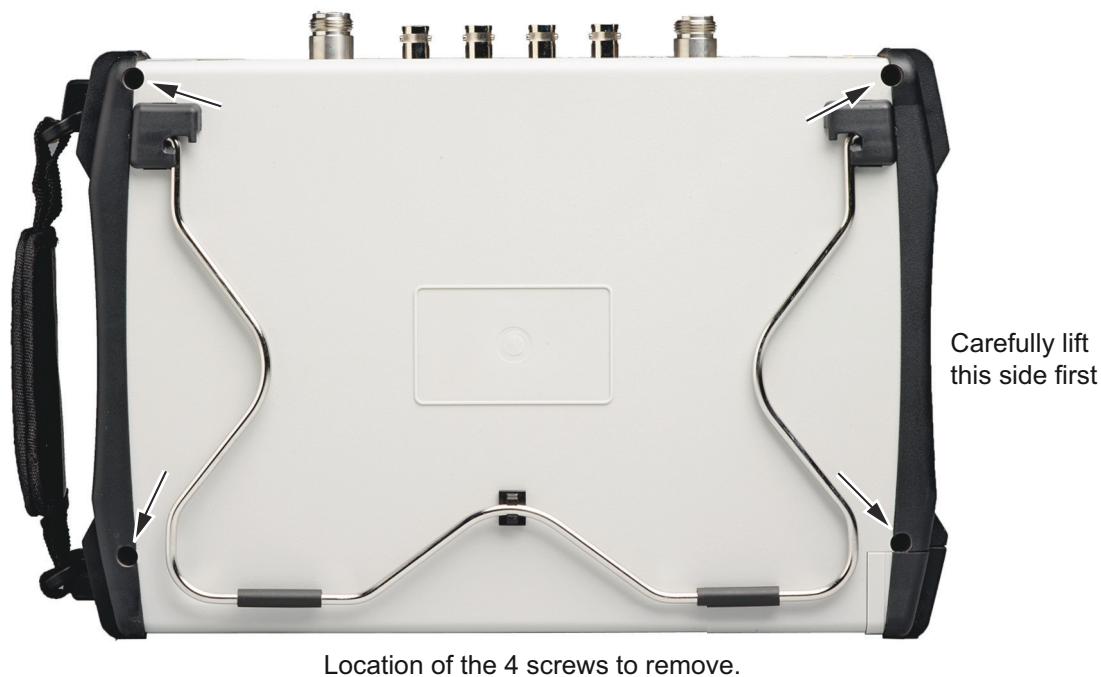

Figure 8-1. Remove the Four Screws
3. Use a Phillips screwdriver to remove the four screws securing the two halves of the BTS Master case together (Figure 8-1).